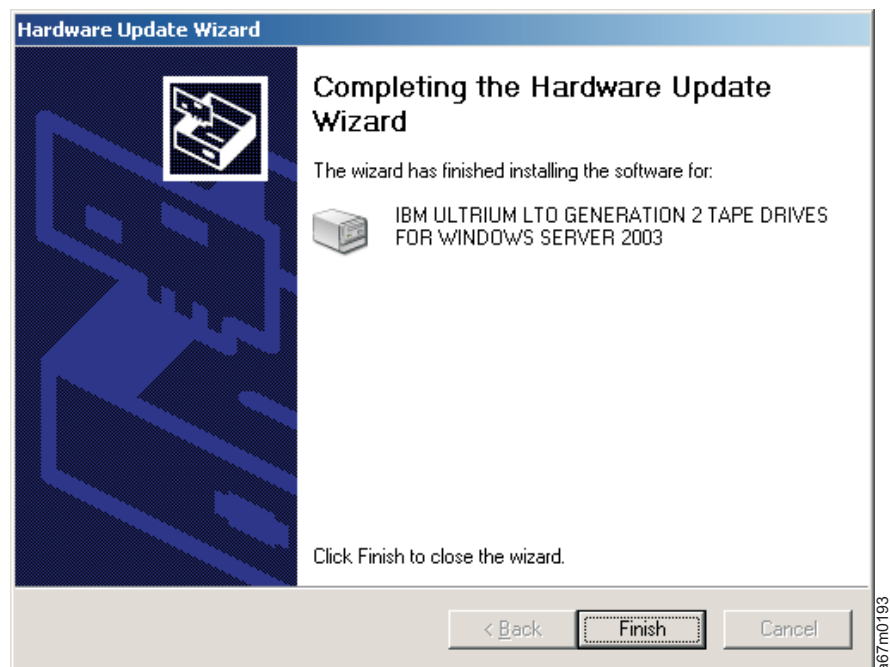

Figure 39. Completing the Hardware Update Wizard
22. You will be prompted to complete the installation. Click **Finish**. See Figure 39.